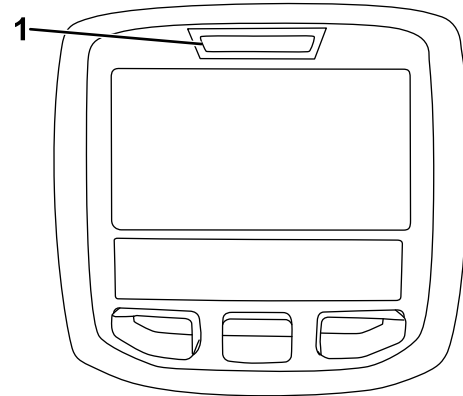

**Figure 44**
- Rear—each side of the machine on the rear frame (Figure 44).